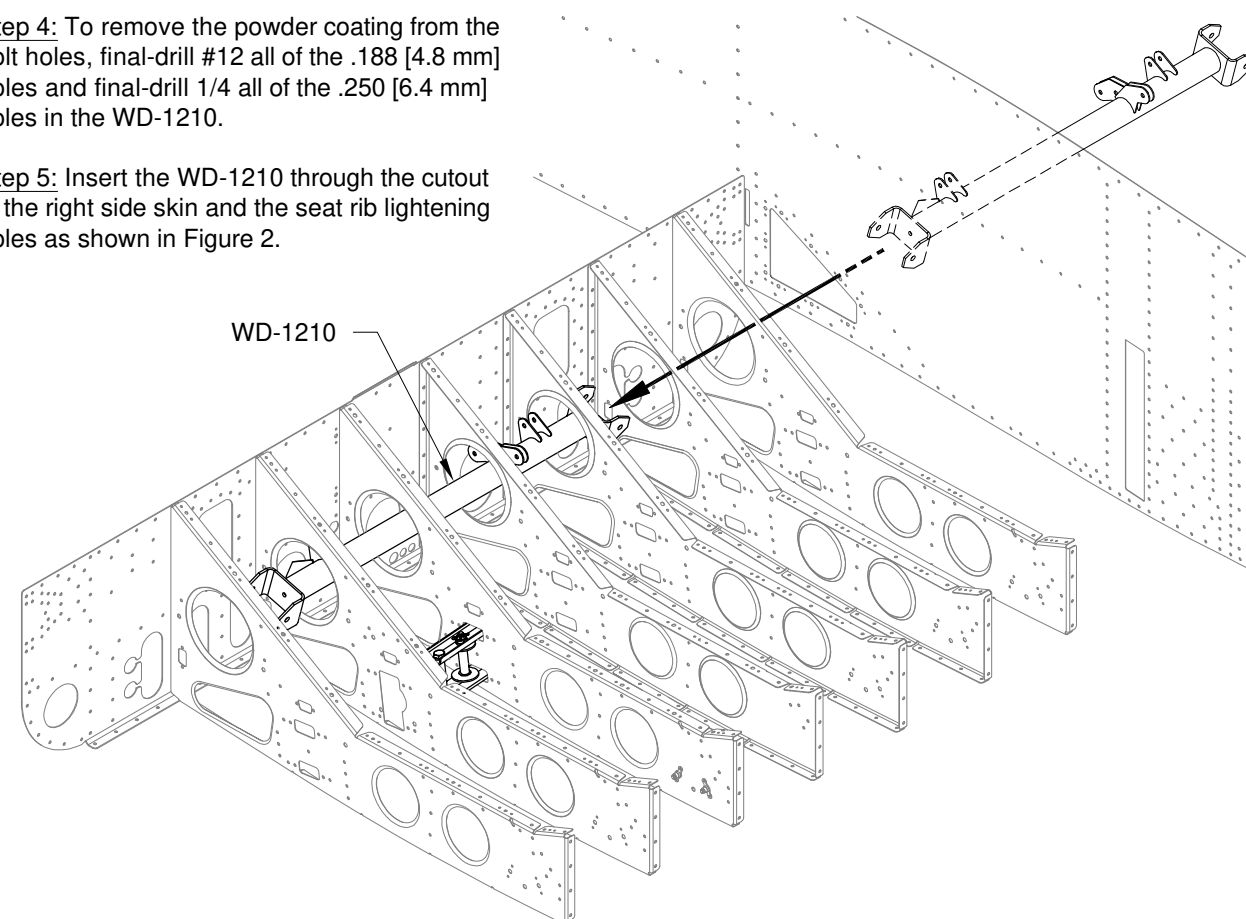

FIGURE 2: INSERTING THE CONTROL COLUMN
Step 5: Insert the WD-1210 through the cutout in the right side skin and the seat rib lightening holes as shown in Figure 2.